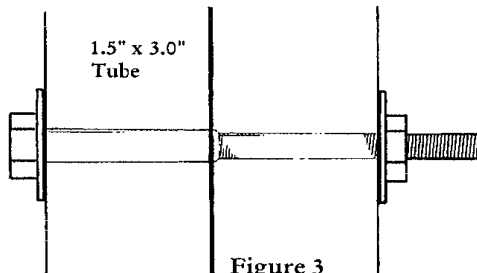
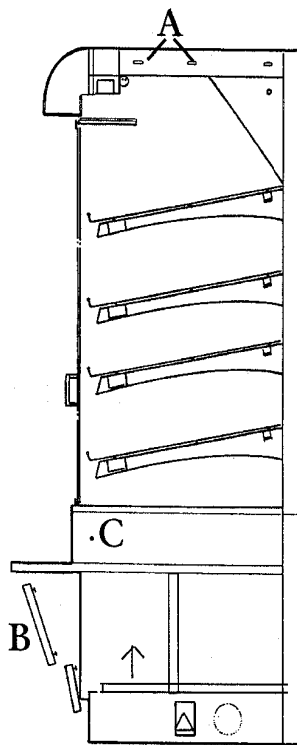

Figure 3
Figure 5
- Using the two 4" x .25" bolts provided, (see figure 3 below) bolt the cases together at point "A" marked with arrows on figure 5.
- With the #10 x 1.5" flat head screw provided screw the cases together at the point marked "C" on figure 5.
- To remove the panel lift up and pull toward you. See Point "B" on figure 5. Then lift out inner deck to access junction box.